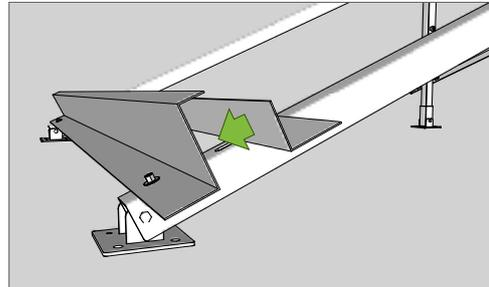

Fig 5
- Place the bottom L-support rail flush within Z-frame support ensuring tight fit (Fig 5).